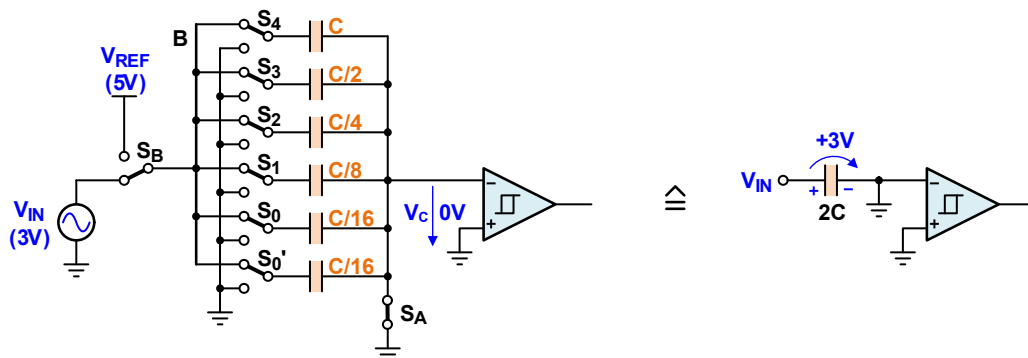

Figure 5. Sample Mode: All Capacitors are Charged up to  $V_{IN} = +3V$
**Sample Mode:** All capacitors are connected to voltage bus B using  $S_4$  to  $S_0'$  and to ground using  $S_A$ . Bus B is connected to  $V_{IN}$ . All capacitors are charged up to  $V_{IN} = 3V$  (Figure 5).